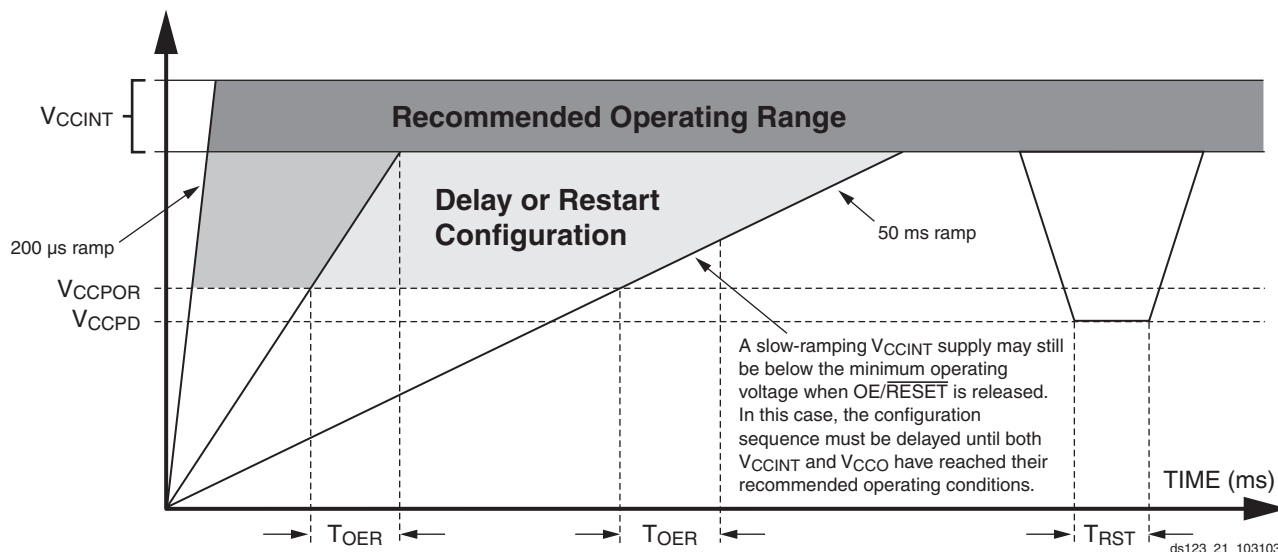

Figure 14: Platform Flash PROM Power-Up Requirements
and $\overline{OE/RESET}$ is again held Low until the after the POR threshold is reached. $\overline{OE/RESET}$ polarity is not programmable. These power-up requirements are shown graphically in Figure 14, page 22.
- At power up, the device requires the V_{CCINT} power supply to monotonically rise to the nominal operating voltage within the specified T_{VCC} rise time. If the power supply cannot meet this requirement, then the device might not perform power-on-reset properly. See Figure 14, page 22.